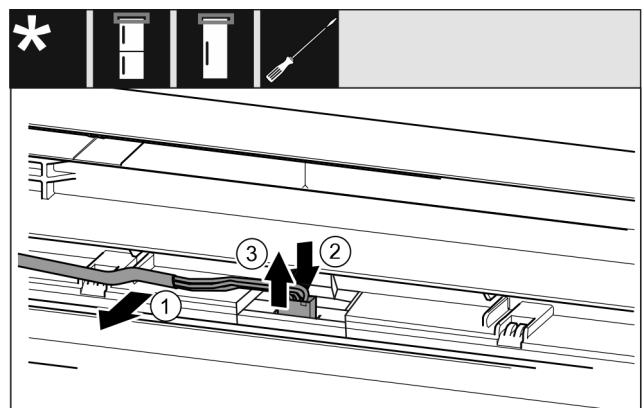

Fig. 22 Fridge/freezer combinations/freezers/cooling units\*
- ▶ Carefully loosen the cable *Fig. 22 (1)* from the guide in the door.\*
- ▶ Press back the tab *Fig. 22 (2)* behind the plug.\*
- ▶ Pull the plug *Fig. 22 (3)* upward carefully.\*